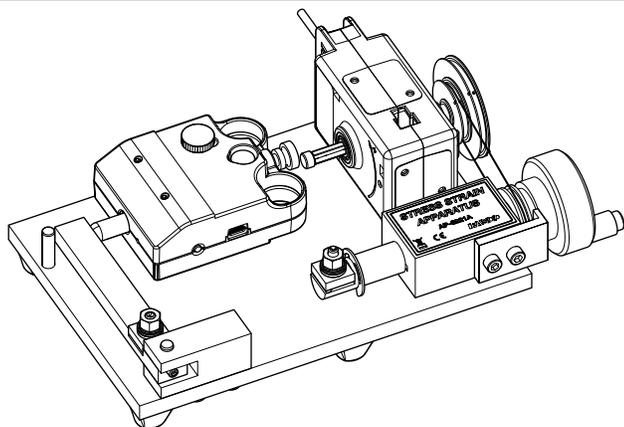
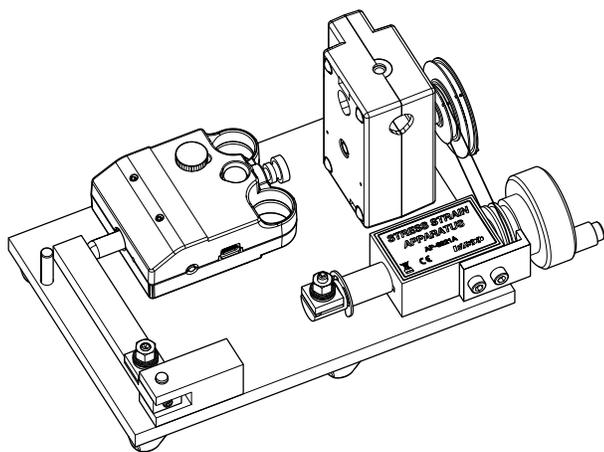

Figure 2: Platform with force sensor and PASPORT Rotary Motion Sensor mounted.
Figure 3: Platform with force sensor and Wireless Rotary Motion Sensor mounted.
3. Place the rotary motion sensor onto the platform such that the middle pulley is aligned with the groove on the crankshaft and the cord (if the sensor has one) points away from the crankshaft. If you are using the PASPORT Rotary Motion Sensor, the sensor's longest side will be flat against the platform (see Figure 2). If you are using the Wireless Rotary Motion Sensor, the sensor will be standing upright (see Figure 3).
With both sensors in position, the setup should resemble what is shown in Figure 2 (if using the PASPORT Rotary Motion Sensor) or Figure 3 (if using the Wireless Rotary Motion Sensor).
- Turn the crank counterclockwise to pull the lever arm away from the force sensor, creating a small gap between the end of the force sensor attachment and the lever arm. (See Figure 3.)